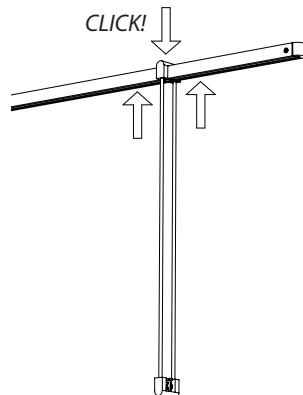

Fig. 5
2. Press down firmly on the top of the Power Bar Hanger, while pressing up on the bottom of the Power Bar, until the Power Bar Hanger clicks into place. (Fig. 5)